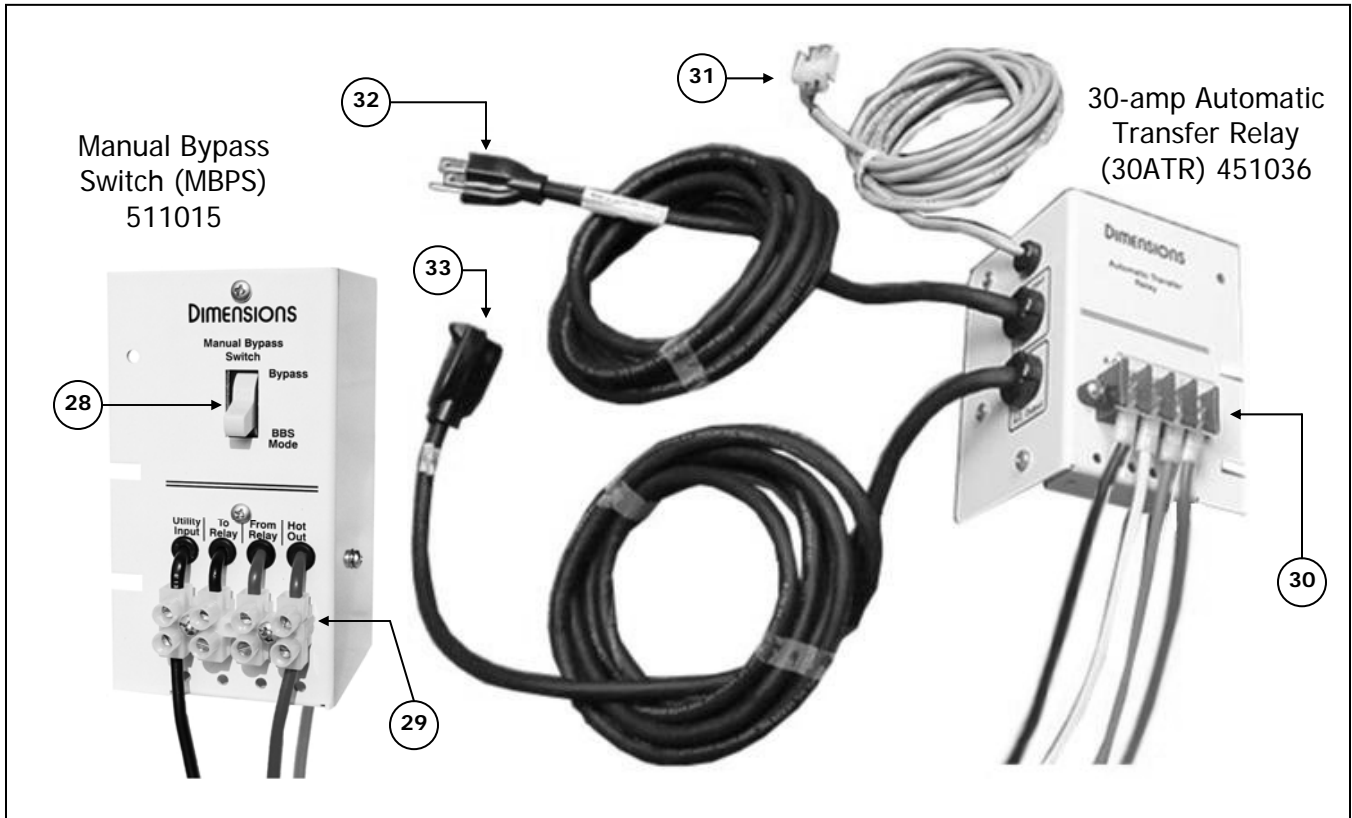

FIGURE 2: MBPS 511015 and 30ATR (right mount) physical description
- (14) **Power On/Off Switch:** Turns the inverter “On” or “Off” and activates or deactivates the dry relay contacts as well.
- (15) **Battery Voltage Test Point:** Attach voltmeter probes to check the battery voltage at the inverter.
- (16) **Meter Reset Button – Number of Outages:** Push to reset the inverter Number of Outages Meter.
- (17) **Number of Outages Meter:** Tells the number of times the system has operated from batteries since the meter was reset.
- (18) **Inverter Run Time Meter:** Tells the total time the system has operated from batteries since the meter was reset.
- (19) **Meter Reset Button – Run Time Meter:** Push to reset the inverter run time meter.
- (20) **RS-232 Connector Port:** Connects to a windows based PC for monitoring and controlling the BBS.
- (21) **Transfer Relay Connector:** Two-pin connector connects to the 30ATR or CMBPS-30ATR to drive the 30 amps relay.
- (22) **Temp. Comp. Sense Wire:** Three-pin connector connects to a 9ft extension wire to the negative battery post.
- (23) **Battery Connector Cable:** Enables fast connection to batteries, Red (+) and Black (-) marks.
- (24) **BBS AC Connector Plug:** Connects to the 30ATR or CMBPS-30ATR receptacle cord item 33 in Figure 2 below.
- (25) **BBS AC Receptacle Cord:** Connects to the 30ATR or CMBPS-30ATR AC plug item 32 in Figure 2 below.
- (26) **Dry Relay Connector Board:** Wiring connector board
- (27) **Low Battery Voltage Potentiometer:** Use to select the level of remaining useful battery capacity to trigger the low battery dry relay.